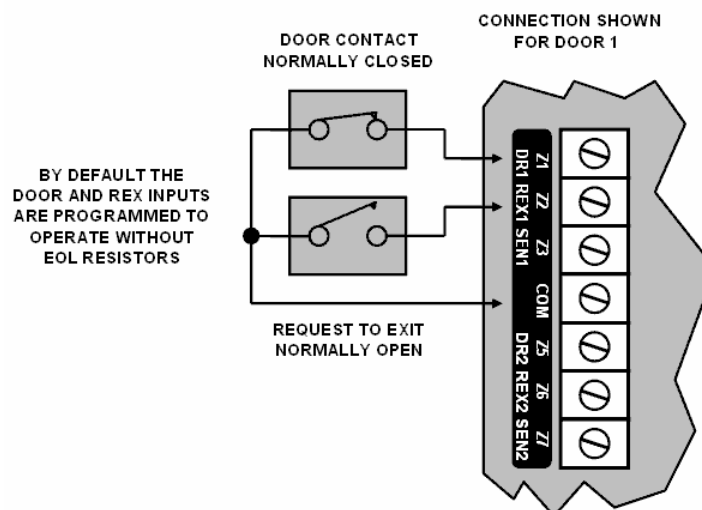

Figure 8 - Standard Door Contact Inputs
- ! The 1N4007 diode shown in Figure 8 is supplied with the Protégé Mini Reader Expander and MUST be installed at the electric strike terminals.